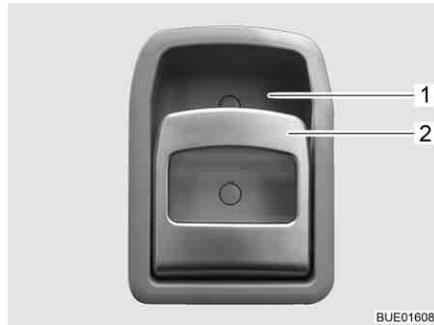

Fig. 64 Door lock of conversion door, inside
*Opening:* ■ Pull on the handle (Fig. 64,2). The door lock is unlatched or opened.
*Locking:* ■ Press the upper part of the handle (Fig. 64,2) in the direction of the recessed handle (Fig. 64,1). The door lock is locked.